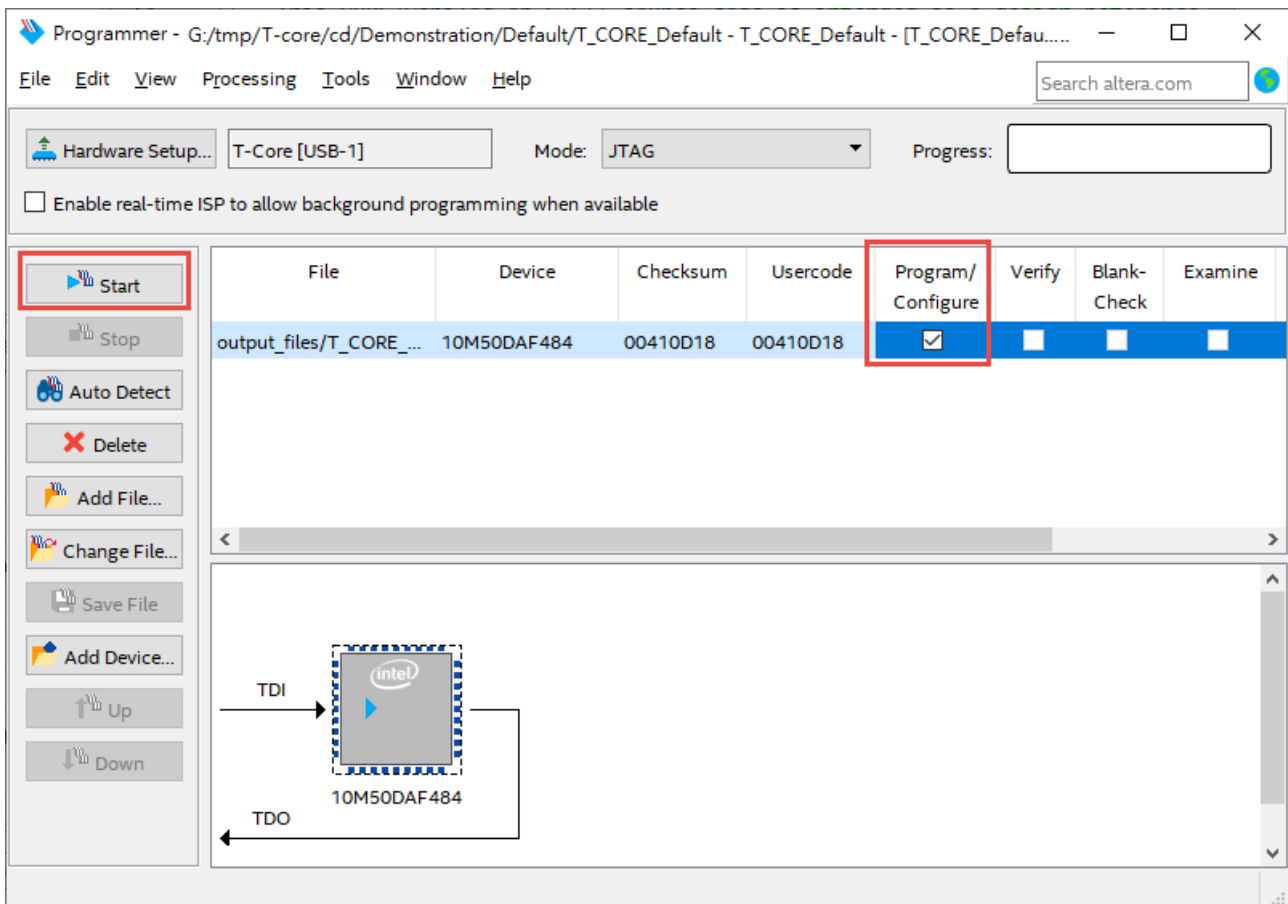

Figure 2-10 Program .sof file into the FPGA device
9. Click “Program/Configure” check box and then click “Start” button to download the .sof file into the FPGA device, as shown in **Figure 2-10**.